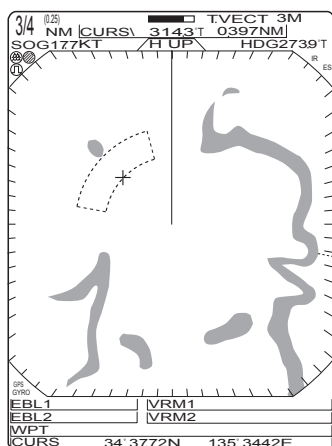
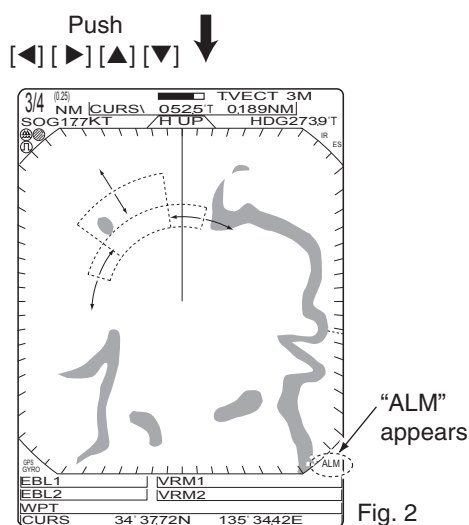

Fig. 1
Fig. 2
- ① Push [+]/[量程+] or [-]/[量程-] to select the desired range.
- ② Push [◀] [▶] [▲] [▼] to set the cursor to the starting point of the alarm zone.
- ③ Hold down [ALM]/[报警] for 1 second to enter the alarm zone setting.
- The starting zone appears on the screen. (Fig. 1)
- ④ Push [◀] [▶] to adjust an angle and push [▲] [▼] to set the distance of the alarm zone.
- ⑤ Push [ALM]/[报警] to set the alarm zone and activate the alarm function.
- ⑥ If a target comes into or goes out of the alarm zone, an alarm sounds.
- ⑦ To deactivate the alarm function, push [ALM]/[报警].
- ⑧ To activate the alarm function again with the same programmed zone, push [ALM]/[报警].
- “ALM” and the pre-programmed alarm zone appears. (Fig. 2)